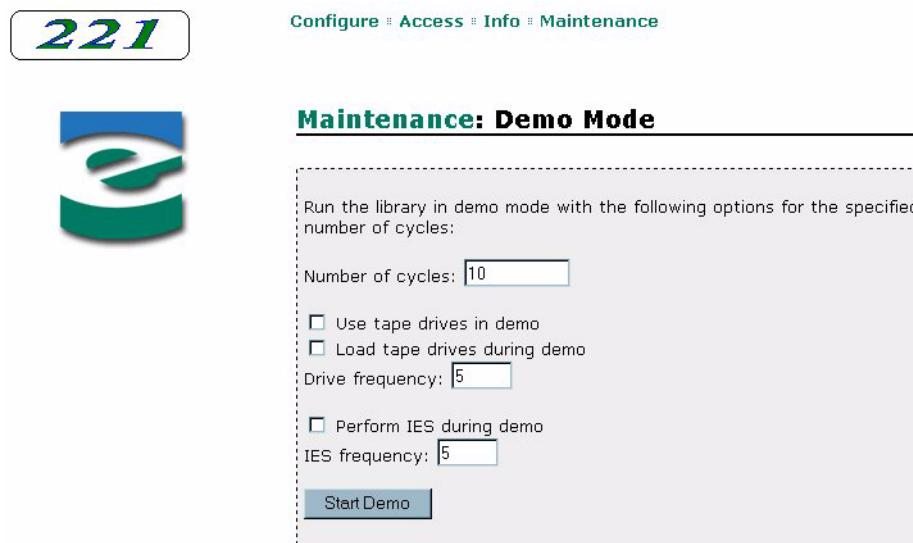

Figure 6-36 Remote management utility – Demo Mode page
3. Click on Run the library in demo mode. A page similar to Figure 6-36 appears.